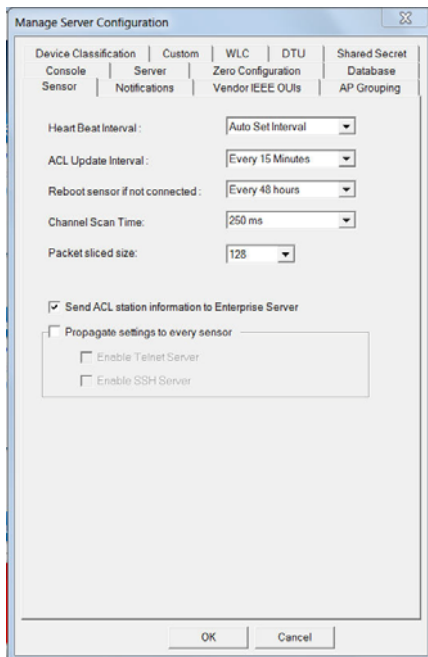

Figure 13-4: Configuring Sensor settings
- 1) From the Manage Server Configuration screen, click the **Sensor** tab. The Manage Server Configuration screen refreshes. See Figure 13-4.